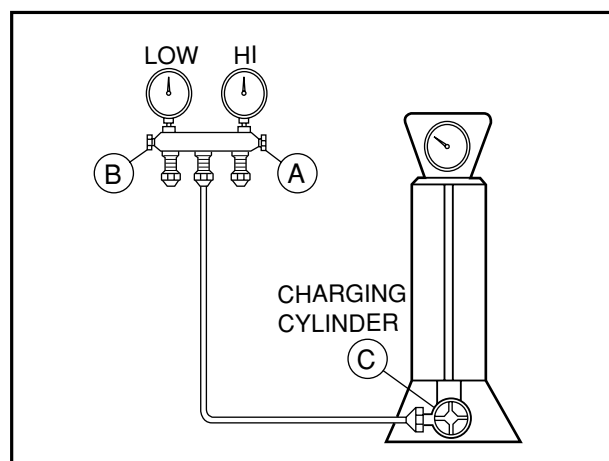

Figure 16B-Charging
- 4) Remove the hose from the vacuum pump and place it on the charging cylinder. See figure 16B.
- 2) Connect the charging cylinder as shown in figure 16B.